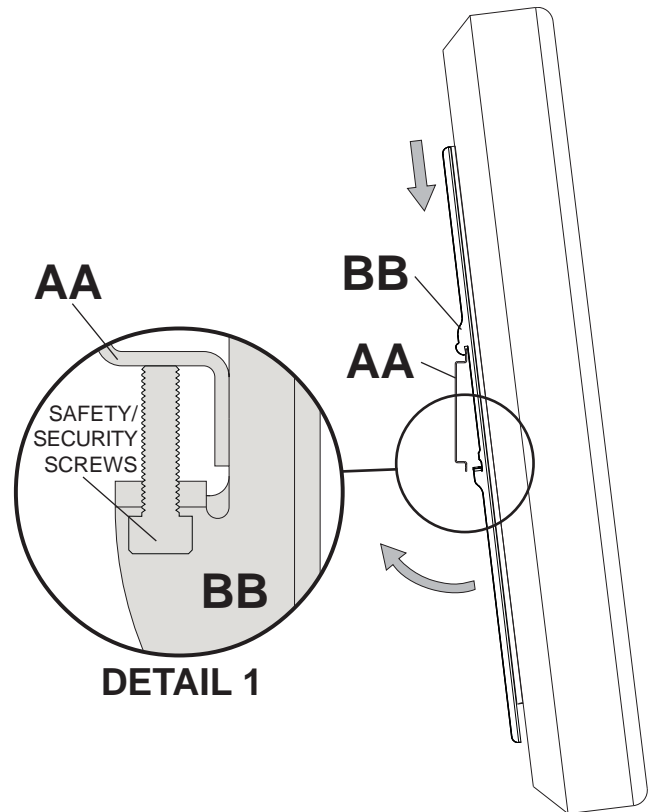
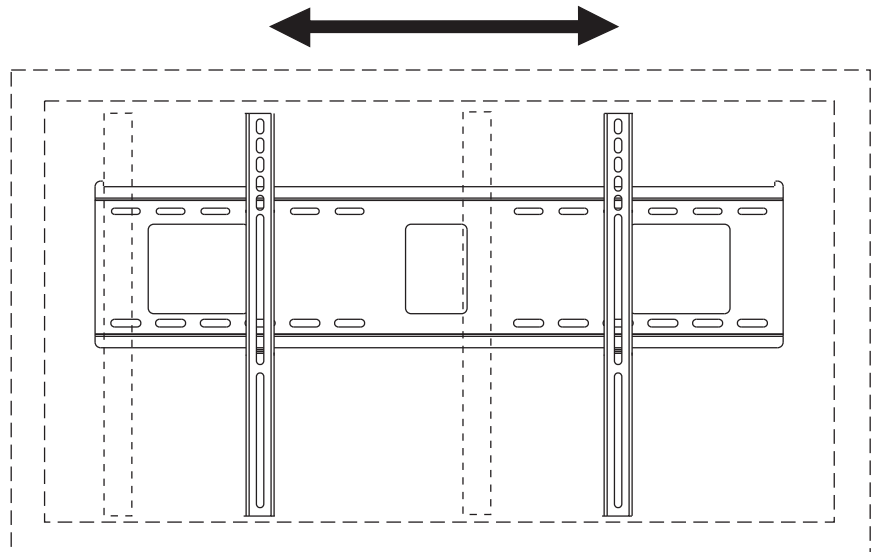

fig. 3.1
fig. 3.2
- 3 Hook adapter brackets (**BB**) onto wall plate (**AA**). Then slowly swing screen in as shown. Turn safety/security screws, using security allen wrench (**EE**), clockwise at least six times to prevent screen from being removed as shown in detail 1 of figure 3.1. Screen can be adjusted horizontally if desired as shown in figure 3.2.